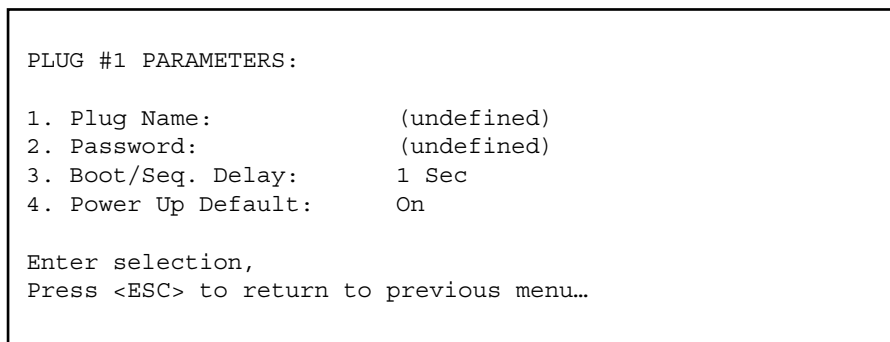

Figure 4-6. Plug Parameters menu—text interface.
- Text interface: Type `/P n` and then press **Enter** (where `n` is the number or name of the plug you want to configure). The Plug Parameters menu will be displayed as shown in Figure 4-6.